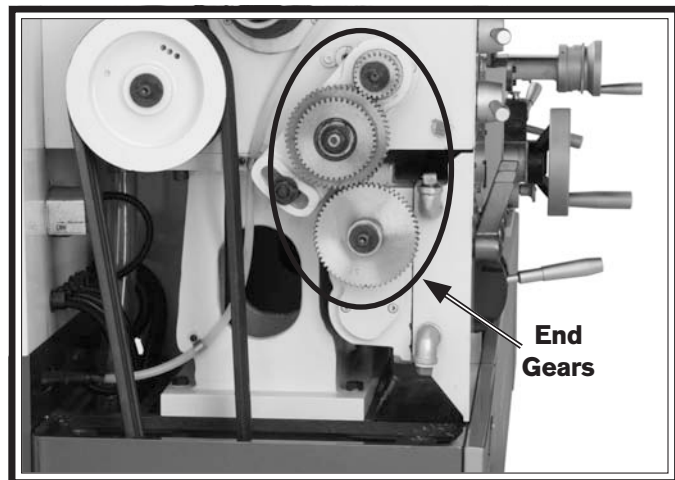

Figure 121. Location of end gears that require grease.
The end gears, shown in **Figure 121**, should always have a thin coat of heavy grease to minimize corrosion, noise, and wear. Care must be taken to avoid over-greasing because excess grease may be flung onto the V-belts, which will reduce optimal power transmission from the motor.
2. Remove the headstock side cover and all the end gears shown in **Figure 121**.